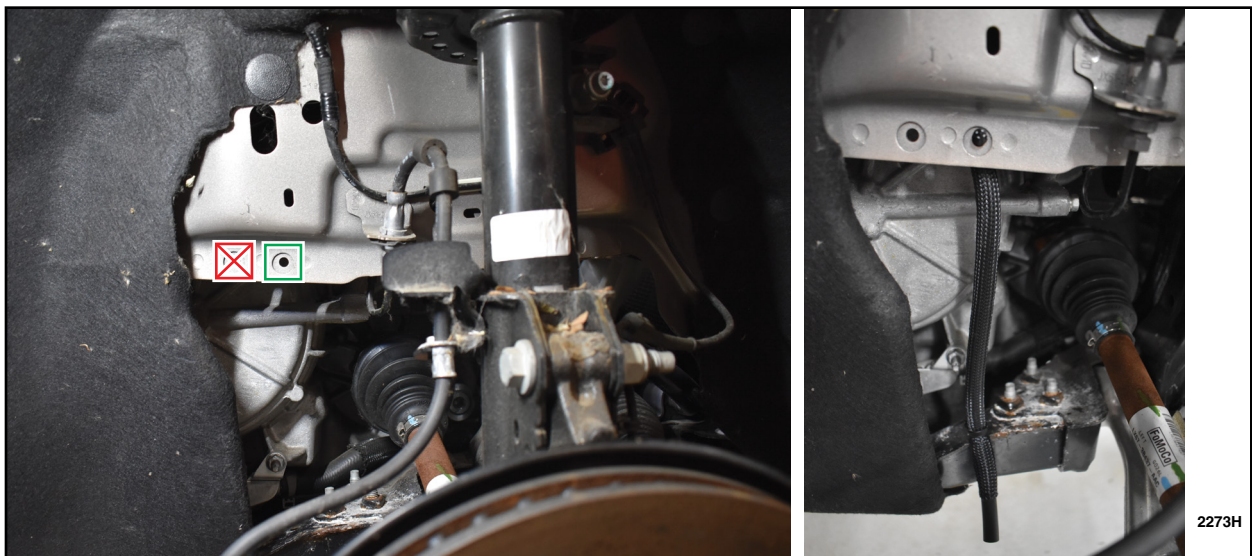

FIGURE 11
14. With the steering wheel turned to the left install the *fir tree fastener* as shown in the figure below. See Figure 11.